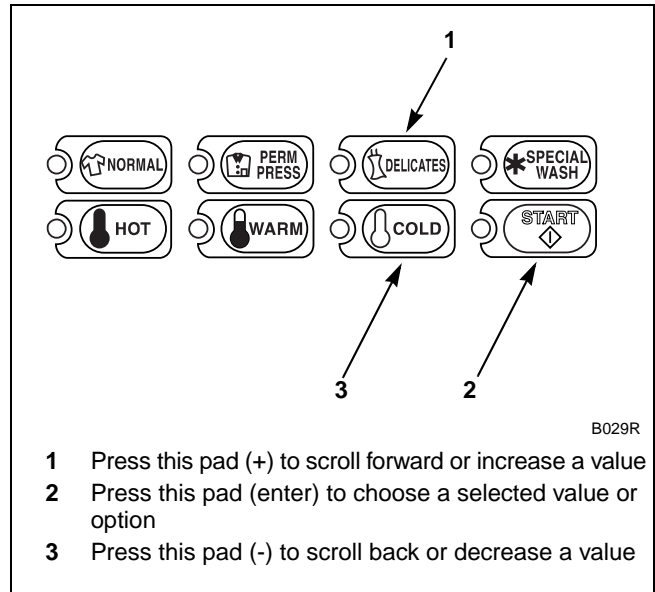

Figure 143
- Press the DELICATES (+) or the COLD (-) keypad to increase or decrease the current number of minutes displayed in the VFD to the desired number of minutes. Refer to *Figure 143*.
**NOTE: The Permanent Press PreWash #1 Fill/Tumble Time can be set from zero (0) to 15 minutes.**